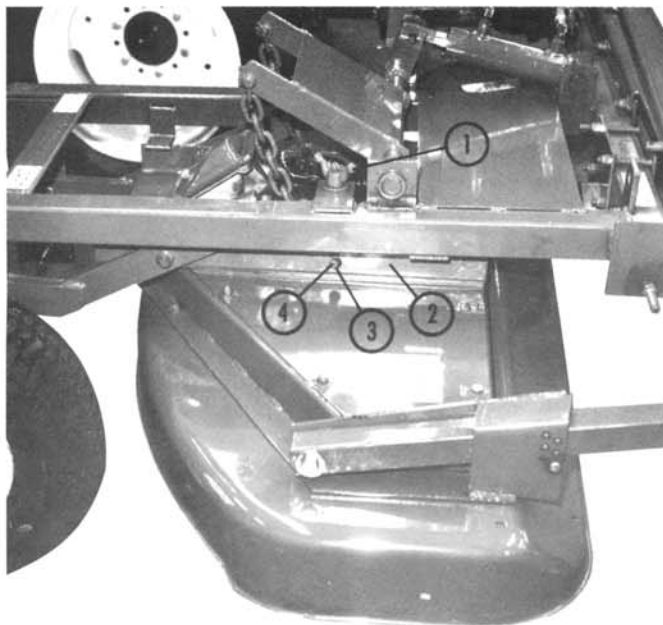

Fig. 4
4. Turn the wing nut on the securing rod until the rod can be inserted in the hole in the flange on the mower deck. See fig. 4.